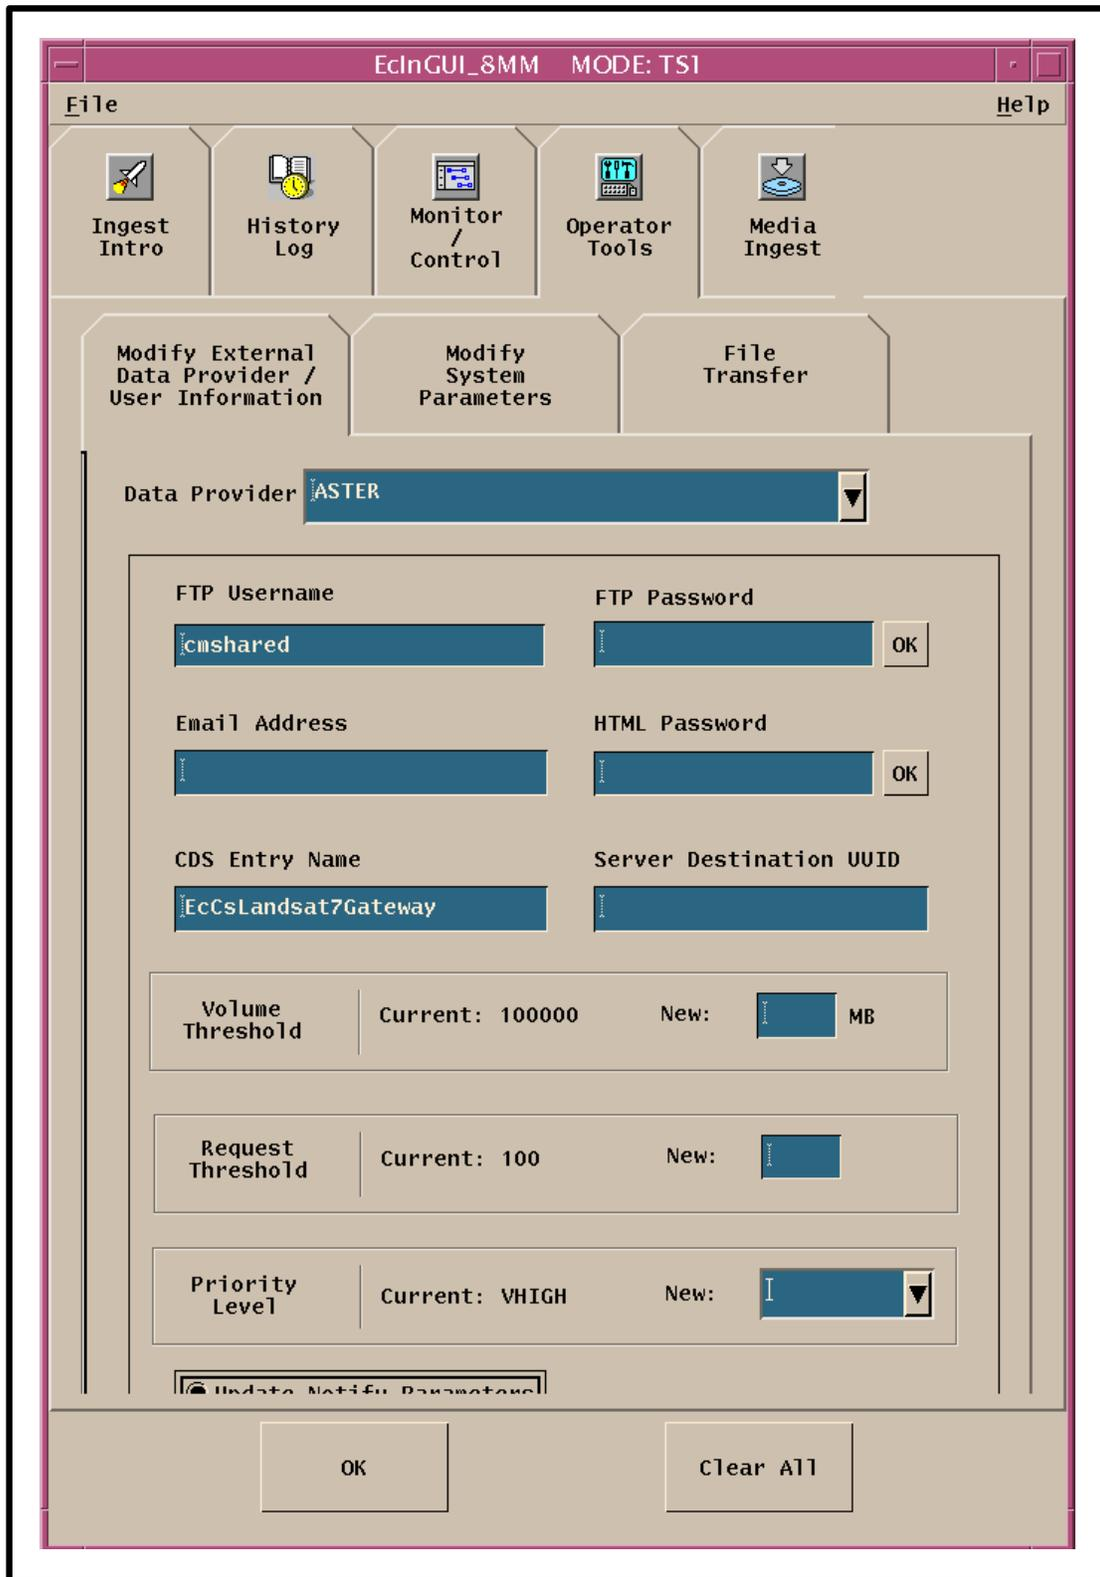

Figure 34. Ingest Data Provider Parameter Modification Screen
Figure 34 shows the screen for modifying data provider thresholds. The screen shown in Figure 34 is used for modifying external data provider information. It has the following uses:
- The **Modify External Data Provider/User Information** screen (Figure 34) is displayed.